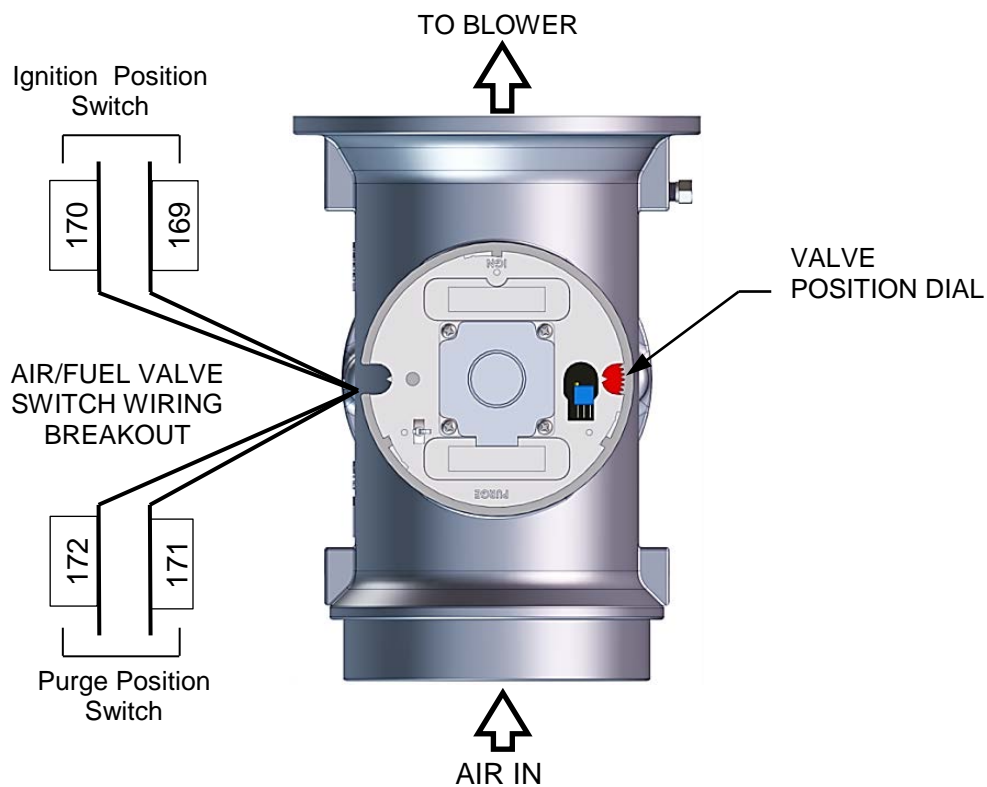

Figure 5-10a: Air/Fuel Purge and Ignition Locations– BMK 1500 – 3000
4. Remove one of the two wires (#171 or #172) from the Purge switch (Figure 5-10a and 5-10b).